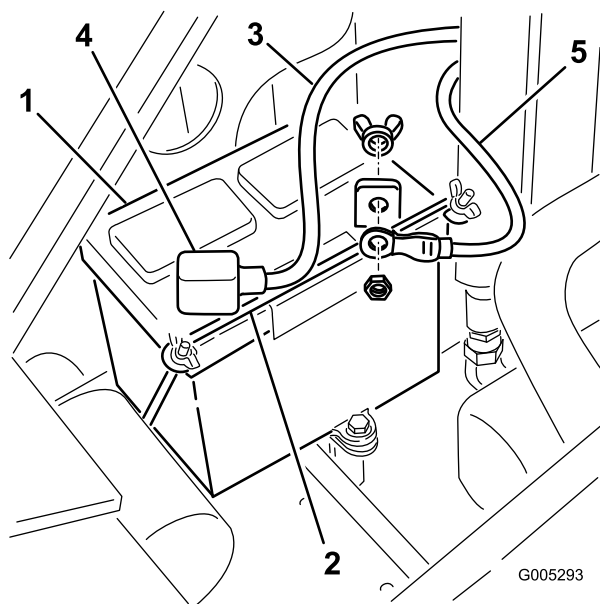

Figure 33
4. Remove the wing nuts and bar securing the battery (Figure 33).
5. Disconnect the negative (black) ground cable from the battery post (Figure 33). Retain the fasteners.
7. Disconnect the positive (red) cable from the battery post (Figure 33). Retain the fasteners.